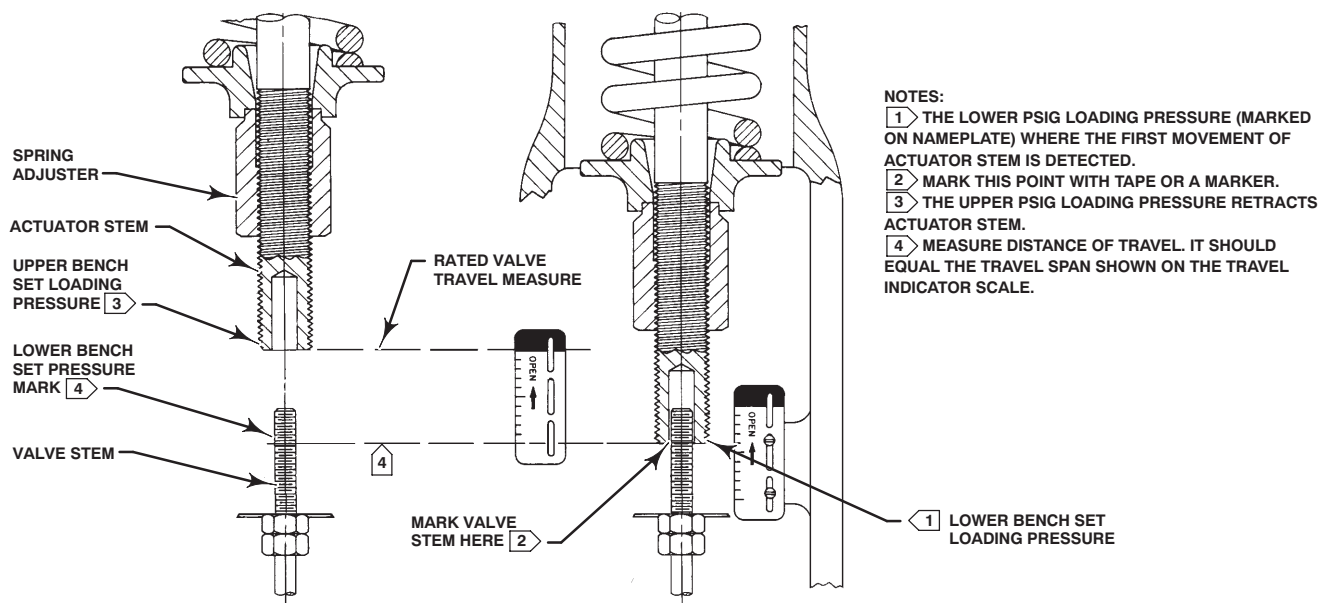

Figure 4. Bench Set Adjustment
2. Screw the stem locknuts all the way onto the valve stem. With the concave side of the travel indicator disk (key 34) facing the valve, install the travel indicator disk on the valve stem. (Note: The travel indicator disk is not used with size 87 actuators.)
a. **For size 87 actuators:** Slowly lower the actuator down onto the valve while guiding the valve stem into the opening in the end of the actuator stem (see figure 4). Once the actuator is in place, insert the cap screws and tighten the hex nuts, securing the actuator to the bonnet.
- Continue to lower the actuator while guiding the valve stem into the opening in the end of the actuator stem until the actuator is in place (see figure 4).
Ensure that the actuator diaphragm is at the bottom of its travel as shown in figure 4 and not connected to the valve. (Note: Some spring compression is required to move the diaphragm to the **bottom** of its travel.)
4. If movement occurs before or after the upper pressure is reached, adjust the spring adjuster (see figure 4). Thread the adjuster up or down on the actuator stem until the actuator stem movement is **first** detected at the upper bench set pressure. (Note: You may need to lower the loading pressure to reduce spring compression, allowing the spring adjuster to turn.)
8. Measure the distance between the mark or tape to the end of the actuator stem. This distance should match the travel span shown on the travel indicator scale (key 32).
4. If movement occurs before or after the lower pressure is reached, adjust the spring adjuster (see figure 4). Thread the adjuster up or down on the actuator stem until the actuator stem movement is **first** detected at the lower bench set pressure.
7. Measure the distance between the mark or tape to the end of the actuator stem. This distance should match the travel span shown on the travel indicator scale (key 32).